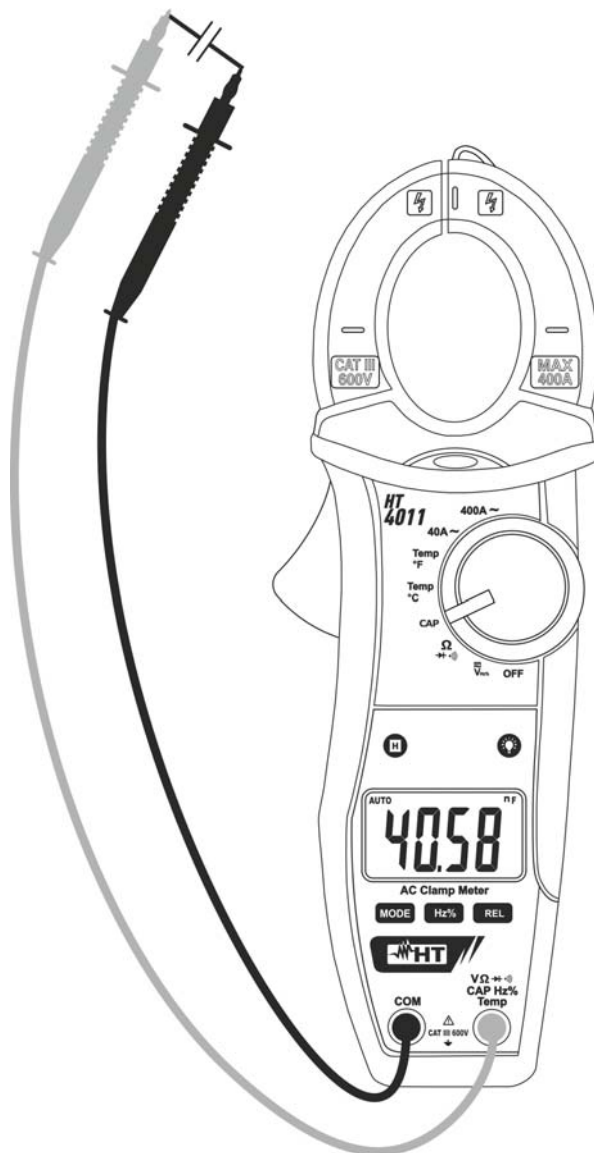

Fig. 8: Use of the clamp for capacitance measurement
3. Position the test leads in the desired points of the circuit to be measured (see Fig. 8). The value of capacitance is shown at display